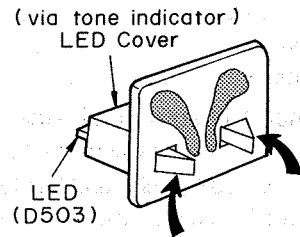

Fig. 15
- (5) The via tone indicator LED cover is glued to the front of tone control box. Pull out the P.C.B. from the LED cover, holding the lug, in the direction of the arrow shown in Fig. 15.